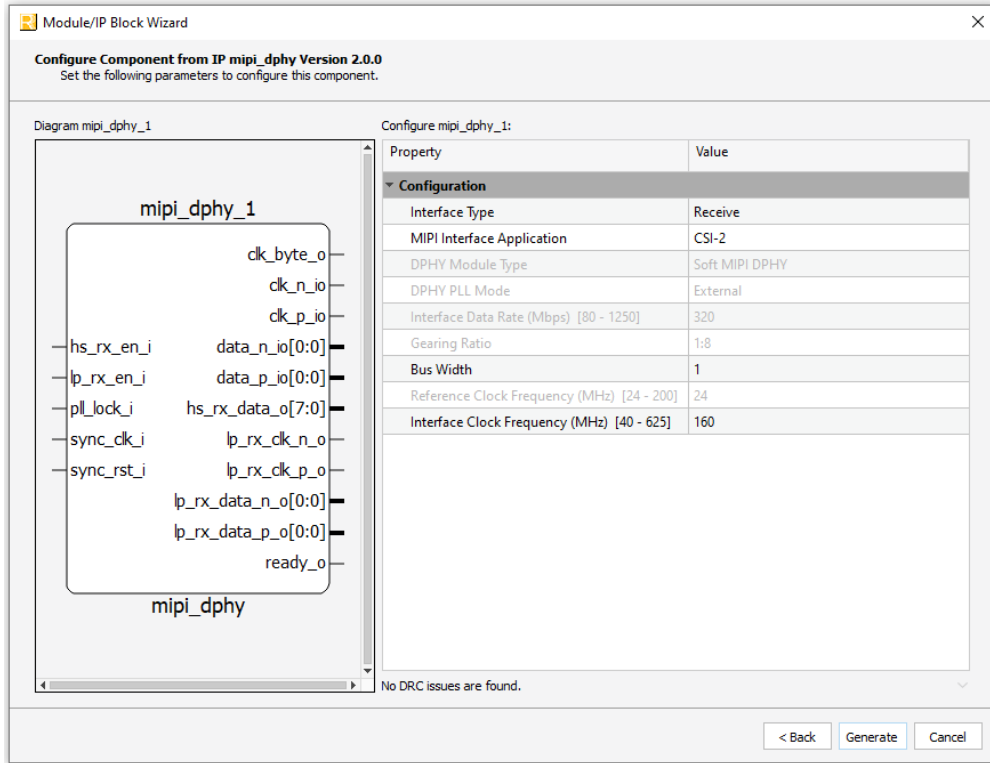

Figure 3.2. Configure Block of MIPI D-PHY Module
3. In the module's dialog box of the **Module/IP Block Wizard** window, customize the selected MIPI D-PHY Module using drop-down menus and checkboxes. As a sample configuration, see Figure 3.2. For configuration options, see the Attribute Summary section.
IP Generation, Simulation, and Validation	<ul style="list-style-type: none">Revised the title from 'IP Generation and Evaluation' to 'IP Generation, Simulation, and Validation'Deleted the section 'Licensing the IP'Revised the title of section 3.1 from 'Generation and Synthesis' to 'Generating the IP'Revised the figures Figure 3.1, Figure 3.2, and Figure 3.3Revised the title of section 3.3 from 'Hardware Evaluation' to 'IP Evaluation'